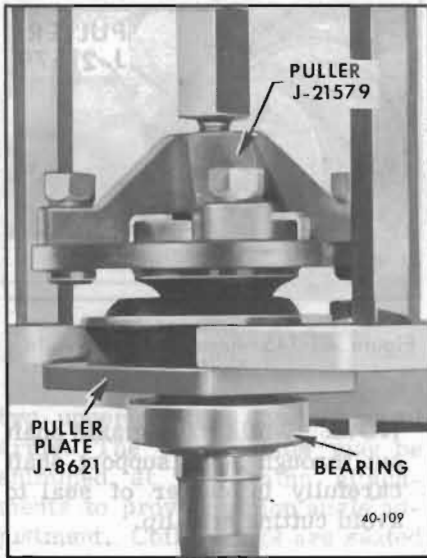

Figure 40-147—Removing Axle Shaft Bearing
2. Press axle shaft bearing off, using Puller Plate J-8621 with Remover J-6525 either in a press or in a set-up using Ram and Yoke Assembly as shown in Figure 40-147.